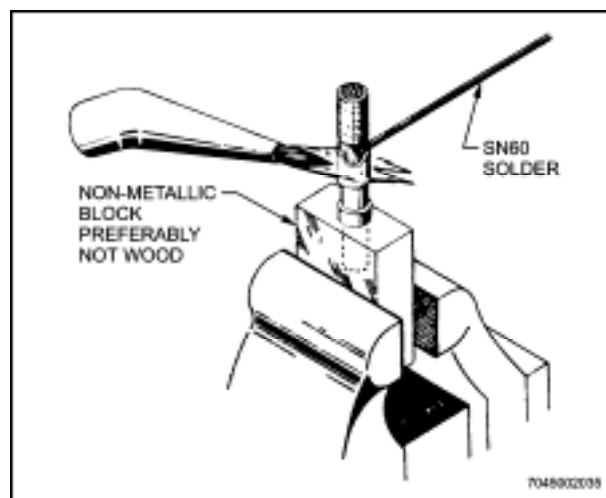

Figure 10-8 Torch Soldering Large Contact
17. A torch can be used to solder wire into a large contact that has been removed from its insert (See Figure 10-8.) The contact is held in a non-metallic block to avoid heat loss, and the torch is played over the solder cup area until the solder melts.